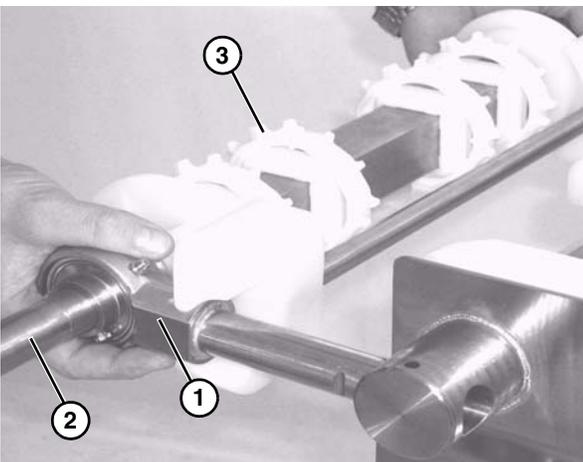

Figure 65
6. Slide the drive tail assembly out of the take up blocks (Figure 65).
7. Slide the motor support bracket (Figure 65, item 1) off the drive spindle (Figure 65, item 2).
8. Remove the sprockets (Figure 65, item 3).